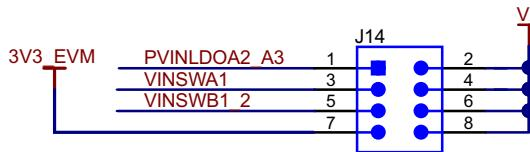

Figure 4. Jumper to V_x Net
- Step 8. The floating V_x net is provided on the BOOSTXL-TPS650861 board to supply PVINLDOA2_A3, PVINSWA1, and PVINSWB1_2 with power. This is done using jumper J14 as shown in Figure 4. For example, for simple testing if the PG level for SWA1, SWB1, and SWB2 are all set to 3.3V, then the 3V3_EVM can be shorted to V_x using the provided jumpers, and then PVINLDOA2_A3, PVINSWA1, and PVINSWB1_2 can all be shorted to V_x as well to provide power for all five outputs. If SWA1 uses 1.8 V instead, its jumper to V_x can be removed and a female-to-female wire jumper provided in the kit can be connected to one of the BUCKs supplying 1.8V.